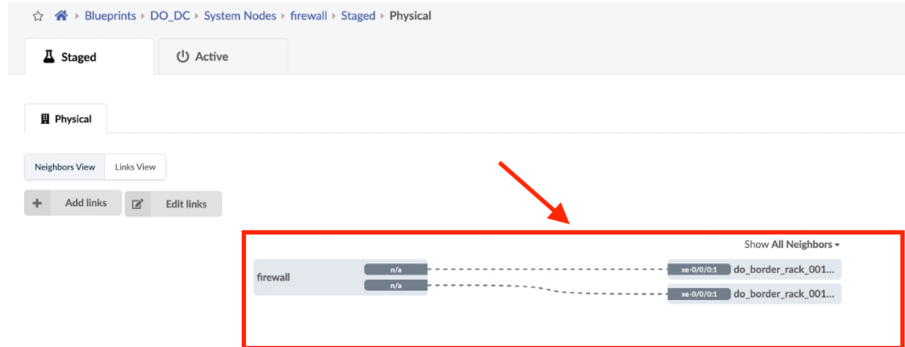

Figure 6.9 *New Logical Links Between the Firewall and Border Leaf Devices*
Once the required links are added, they will show up in the Staged > Physical view as shown in Figure 6.9.
- Interface xe-0/0/0:1 (the first 10GbE channel of the first 40GbE interface) on border leaf 1 will connect to xe-0/0/16 on the firewall. (See Figure 6.9).